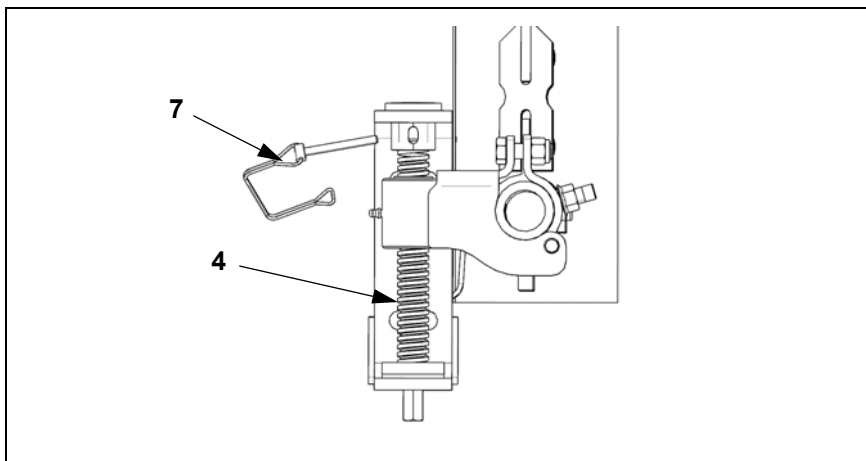

Fig. 25:
3. Use the tensioner's wire lock pin (7, Fig.25) to secure the threaded rod (4, Fig.25).
1. Remove the wire lock pin (7, Fig.25) from the threaded rod (4, Fig.25) of the tensioner.